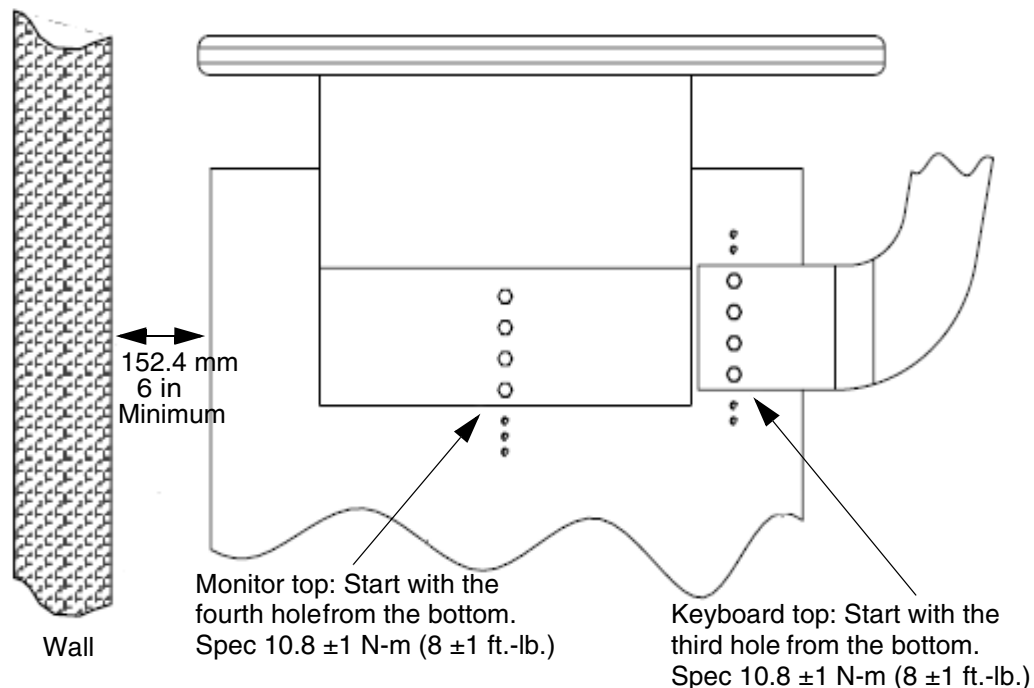

Figure 1-63 Console Position
- 3.) Fasten the keyboard table top one hole lower than the console table top, as shown in Figure 1-63.